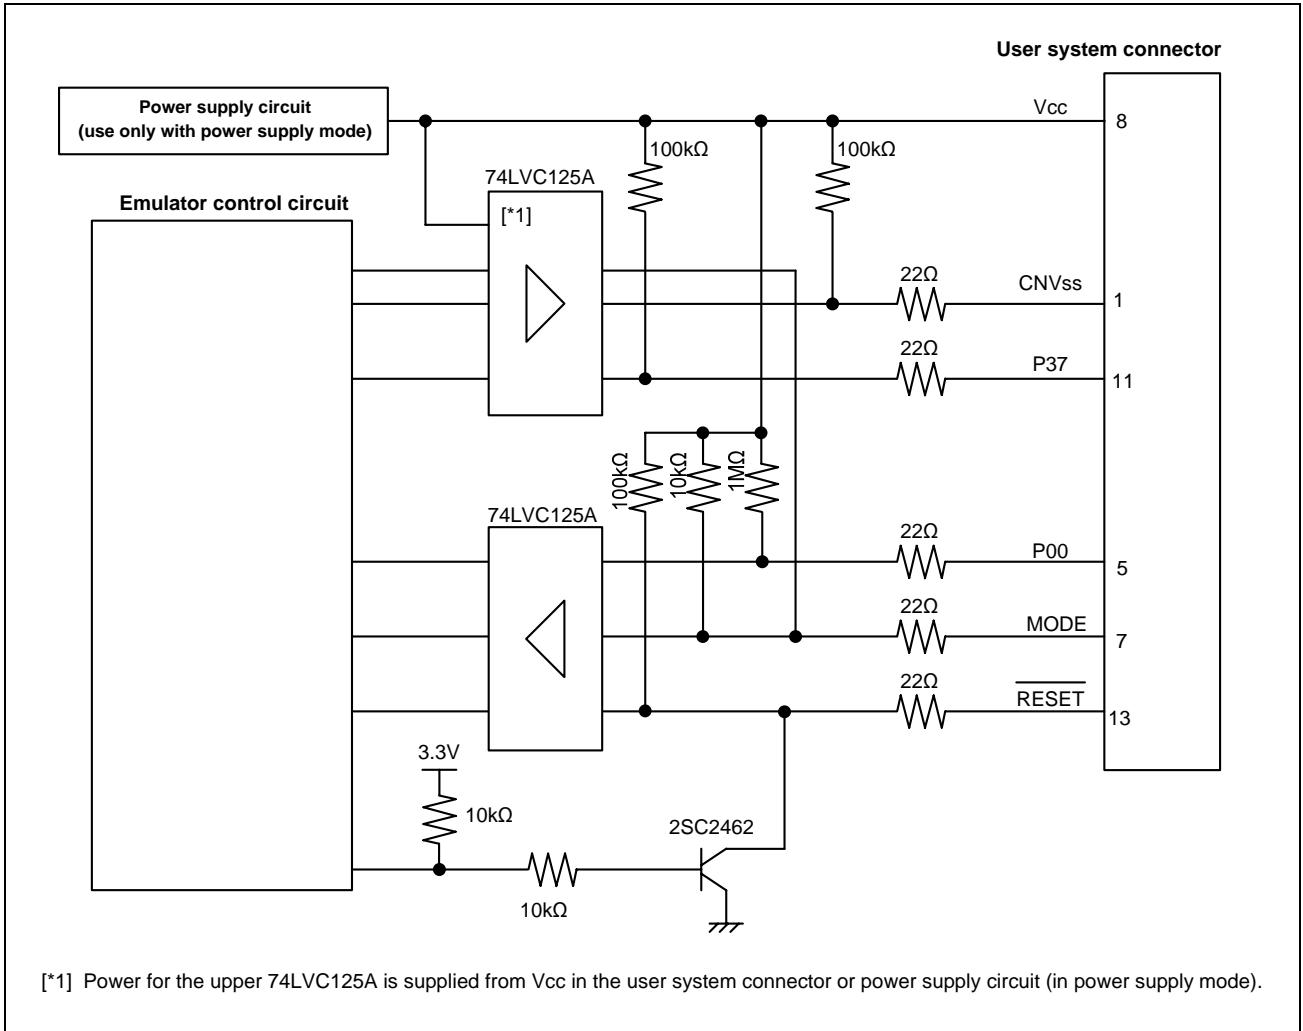

Figure 5.6 Interface Circuit Inside the E8 Emulator (For Reference)
9. Figure 5.6 shows the interface circuit in the E8 emulator. Use this figure as a reference when determining the pull-up resistance value.